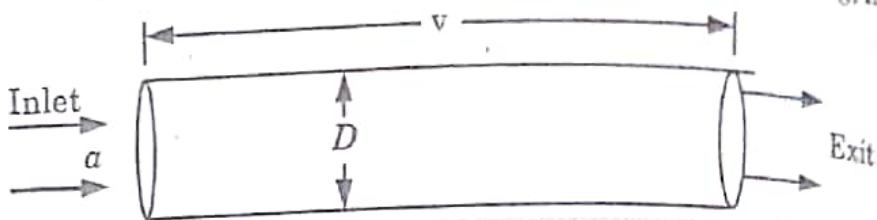

Fig. 4.6.1. Wind flow through the opening.
- Fig. 4.6.1 shows the motion of wind through the opening of area (a) flowing with velocity (v). The discharge rate (Q) of air through the opening at point 1 and 2 is given as,